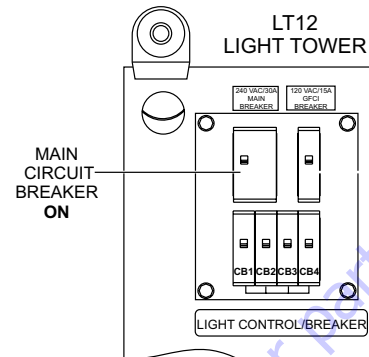

Figure 18. Main Breaker ON (LT12)
4. Once, the engine has started, place the main circuit breaker switch (Figure 18) on the LT12 control panel in the ON position.